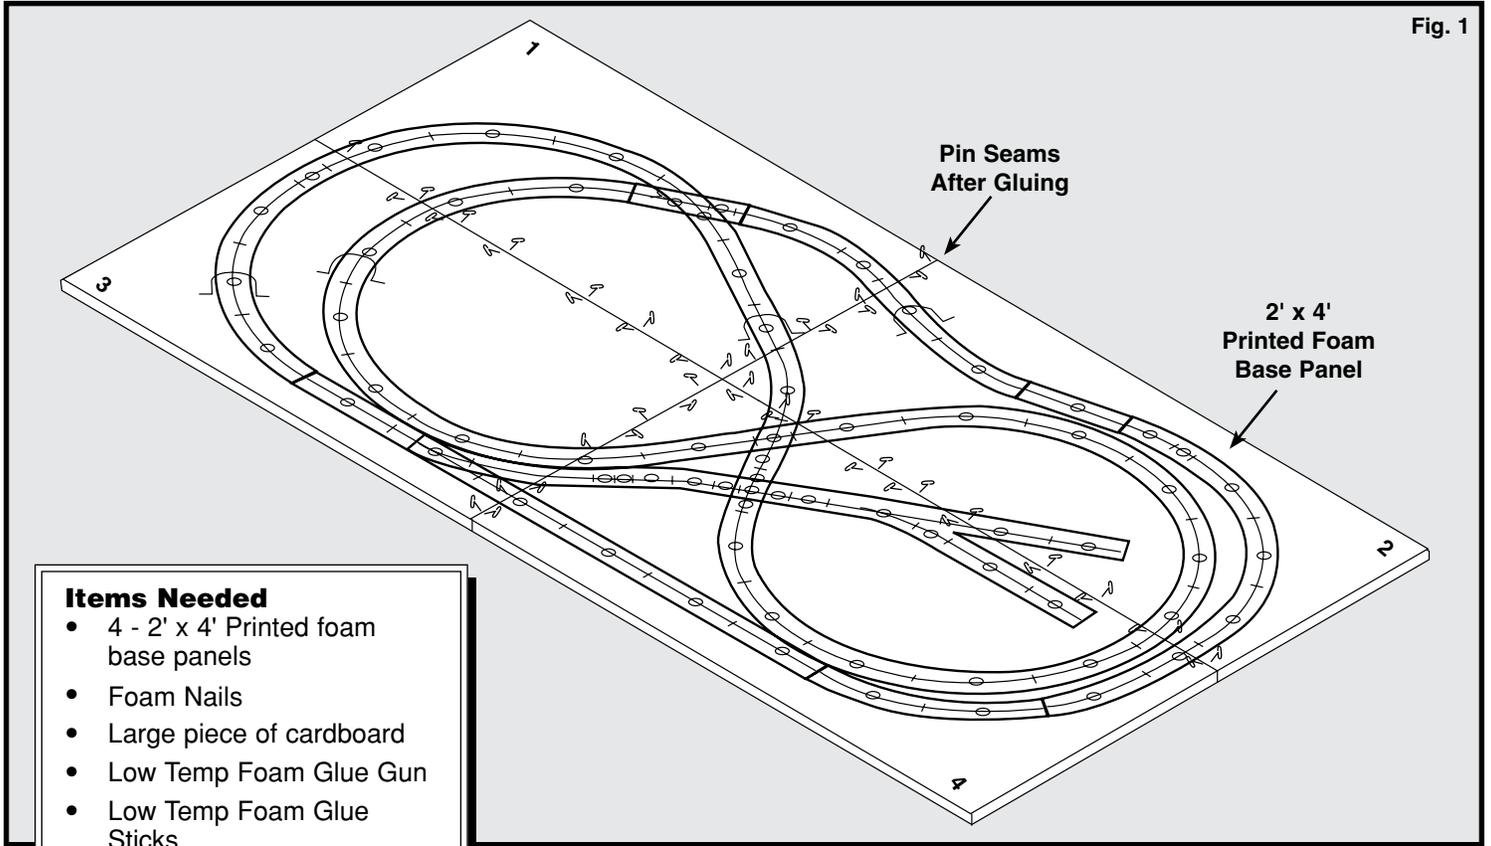
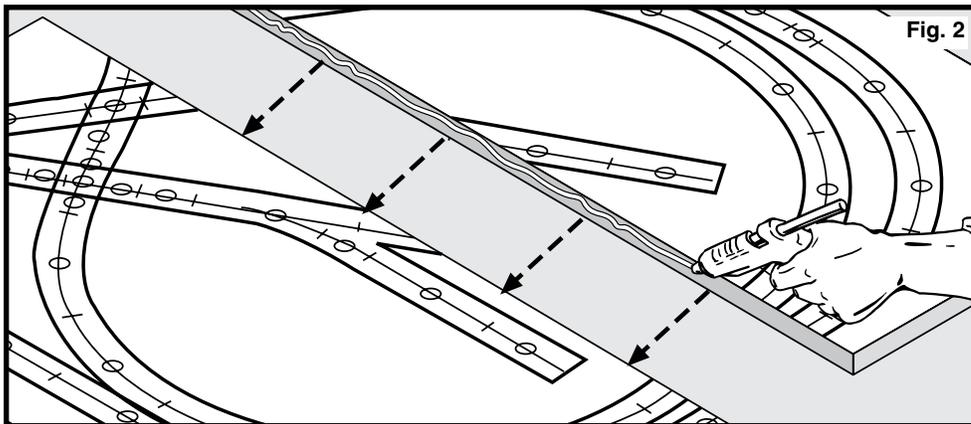

Fig. 1
Fig. 2
- A. Lay the four printed foam base panels in the proper sequence, face up on a flat surface (Fig. 1).
- B. Glue the 2' x 4' panels together (Fig. 2). Pin at seams with Foam Nails (Fig. 1). Wipe off excess glue.